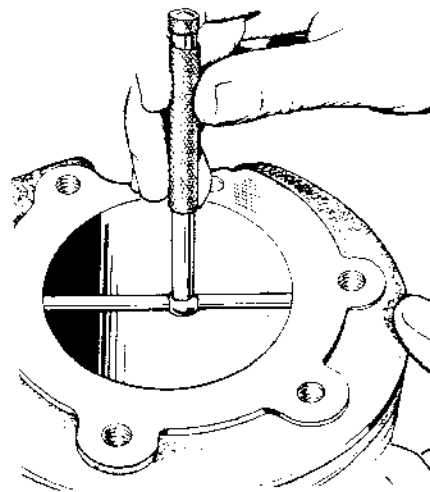

FIGURE 35. METHODS OF MEASURING THE DIAMETER OF A CYLINDER BORE
2. Record measurements taken at top and bottom of piston travel as follows (see Figure 35):